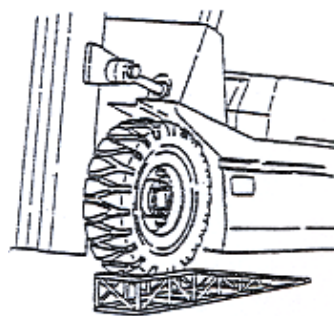

Figure 2-54
7.5.4 Replace the roller of main frame as shown in Figure 2-54